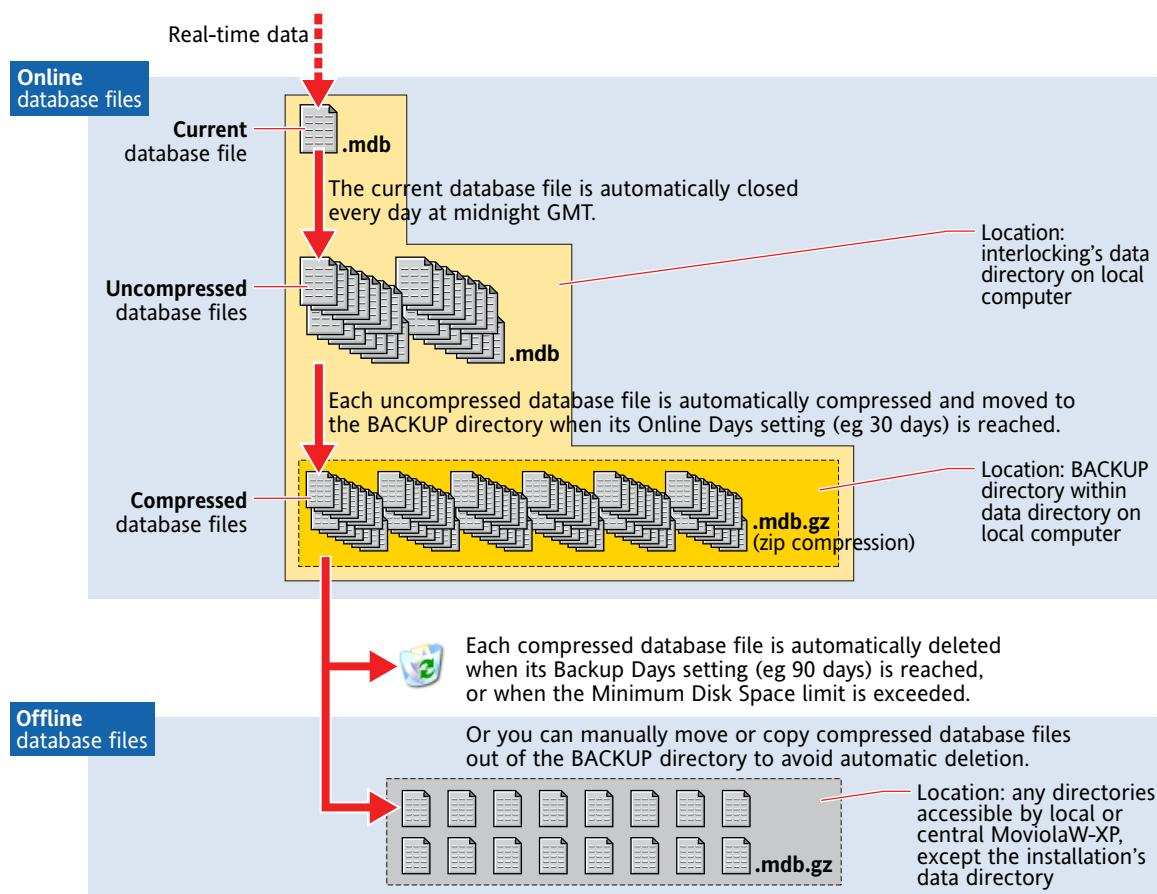

Figure 2.9 Database files
Local MoviolaW-XP maintains a set of database files as shown in figure 2.9 for each interlocking to which it is connected.
- the current database file and other online database files on the local MoviolaW-XP computer (figure 2.9);